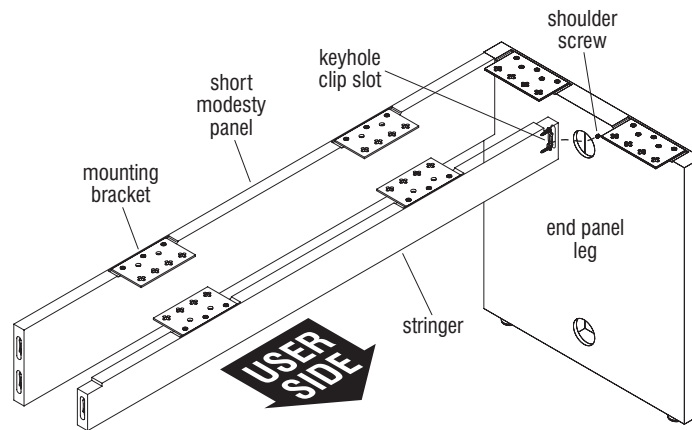

Figure 7
1. If the table being assembled has a short modesty panel as illustrated in Figure 7, with the assistance of a second person, have one person hold the table assembly in the upright position, while the second person follows step 2 below (Figure 7).
2. Orient the stringer as illustrated, so the overhang of the installed mounting brackets face the back, "non-user side" of the table (Figures 7 & 8).
3. Take the end of the stringer and align the larger opening of the keyhole clip slot with the corresponding shoulder screw installed to the inside of the end panel leg, closer to the "user side" (Figures 7 & 8, Detail H). Press the stringer end against the side of the end panel leg, slightly elevated so the head of the shoulder screw rests in the larger opening of the keyhole slot (Detail I). Next, squarely press the stringer down to engage the screw into the smaller end of the keyhole slot (Detail J).